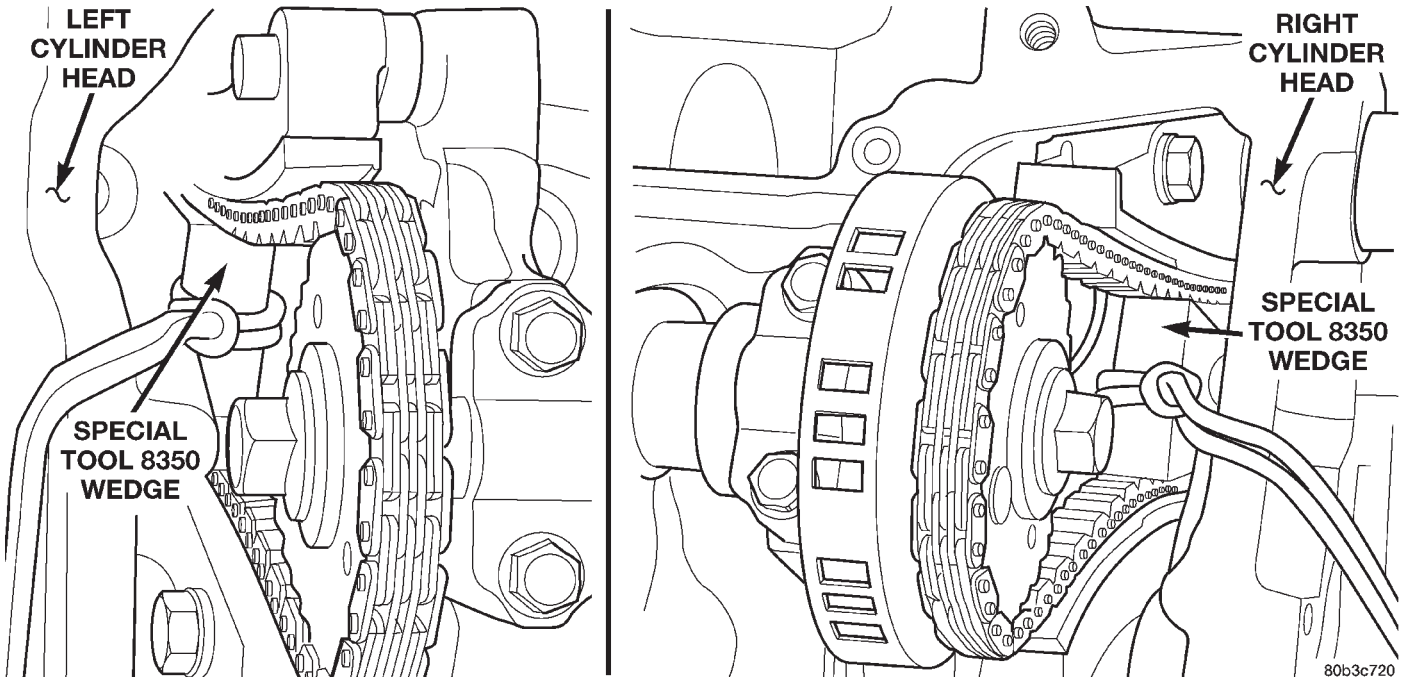
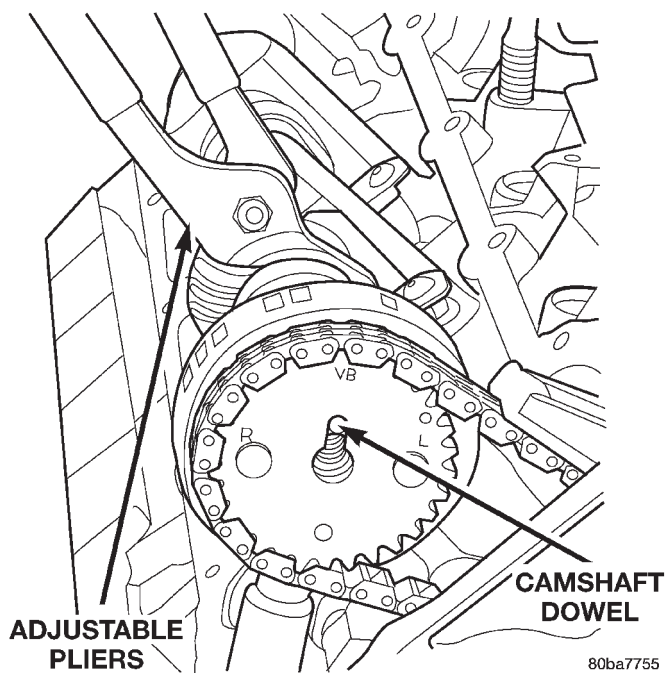

Fig. 83 Securing Timing Chain Tensioners Using Timing Chain Wedge
Fig. 88 Camshaft Sprocket Installation
- (5) Position Special Tool 8350 timing chain wedge between the timing chain strands. Tap the tool to securely wedge the timing chain against the tensioner arm and guide (Fig. 83).
- (7) Using the adjustable pliers, rotate the camshaft until the camshaft sprocket dowel is aligned with the slot in the camshaft sprocket. Install the sprocket onto the camshaft (Fig. 88).
- (8) Install the camshaft sprocket retaining bolt and hand tighten.
- (9) Remove timing chain wedge special tool 8350 (Fig. 83).